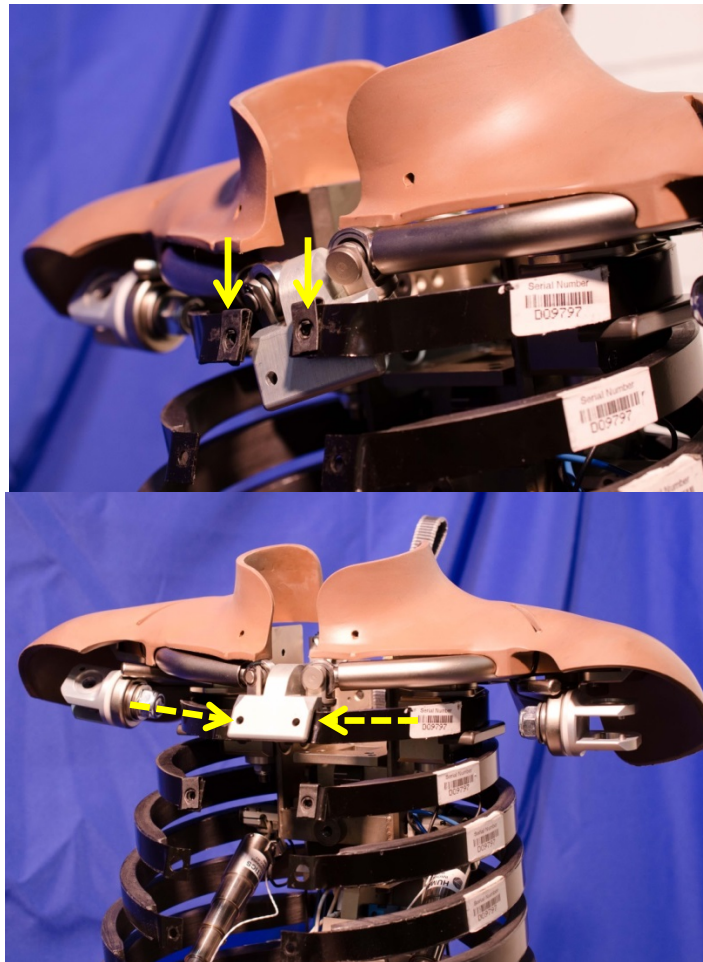

Figure 6-49. Install clip nuts on Rib #1 and slide into sternum bracket
6.2.2.42 Install M5 Clip Nuts (5000513) to the ends of Rib #1 and slide into the Sternum Bracket (472-3870) (Figure 6-49).